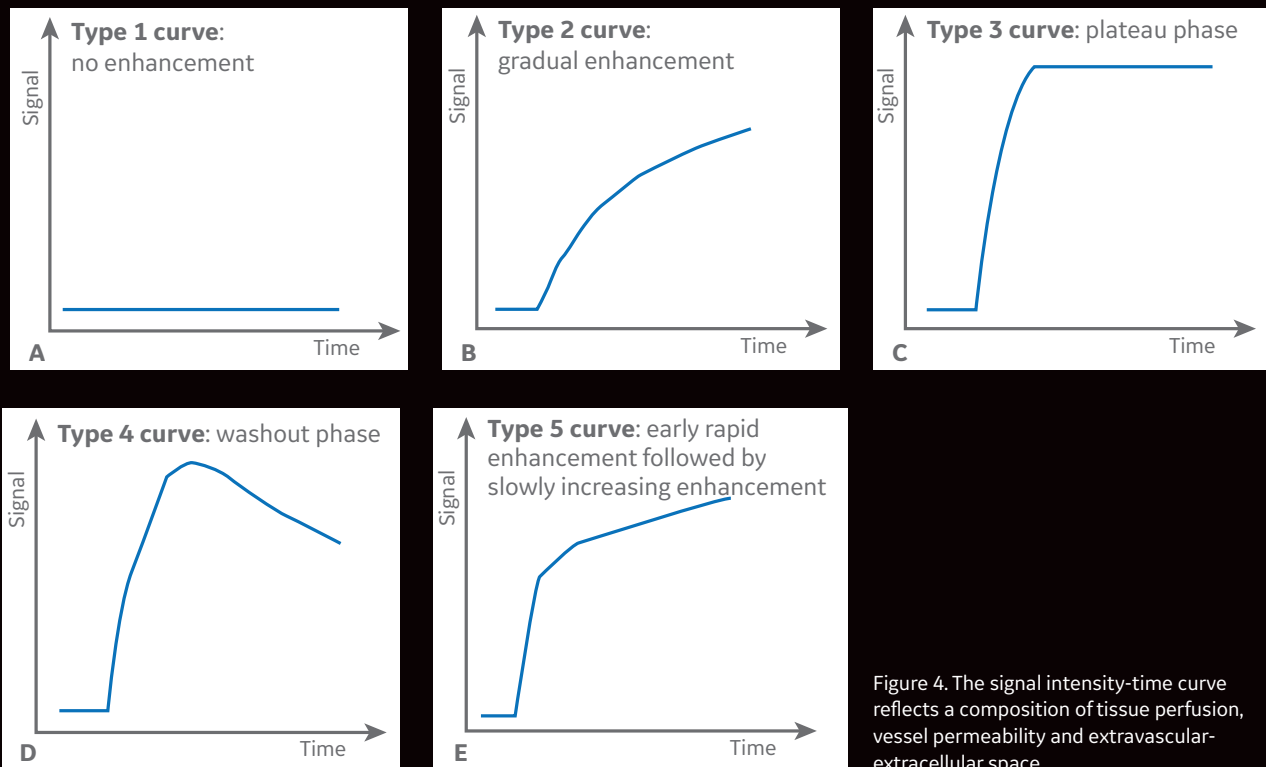

Figure 4. The signal intensity-time curve reflects a composition of tissue perfusion, vessel permeability and extravascular-extracellular space.
As a reference center for epilepsy surgery, the Department of Nuclear Medicine has evaluated more than 2,000 epileptic patients.^{2,3} According to Professor Atay, clinicians in the epilepsy surgery council prefer PET/MR to PET/CT for brain FDG PET studies. Interictal brain FDG PET/MR is performed for each epileptic patient who requires surgery or other invasive intervention (Figure 4). The institution's normal brain FDG PET
Figure 4. A 16-year-old female patient with partial seizures. The epileptogenic region was on the right hemisphere according to EGG findings. The MR exam showed a lesion in the right perisylvian region compatible with cortical dysplasia. The lesion was mildly hypometabolic on FDG PET images. The addition of PET/MR has helped with pre-surgical planning and post-surgical success at the hospital. (A) ^{18}F -FDG PET; (B) Fused PET/T1 3D BRAVO; (C) T1 3D BRAVO; (D) T2 FSE-IR.